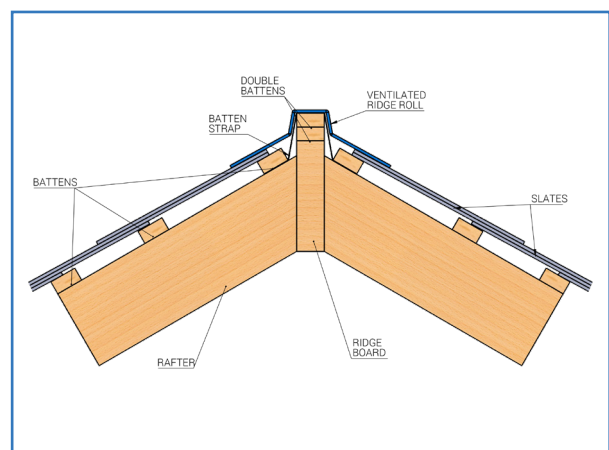

Figure 2. 2d View
1. The roof should be completed with roof slate up to the ridge. The line for fixing of the Kytun™ KGR Steel Ridge Capping should be marked. Any problems or obstructions should be noted at this stage. The Ridge Roll should be in place at this stage (See figure 2).